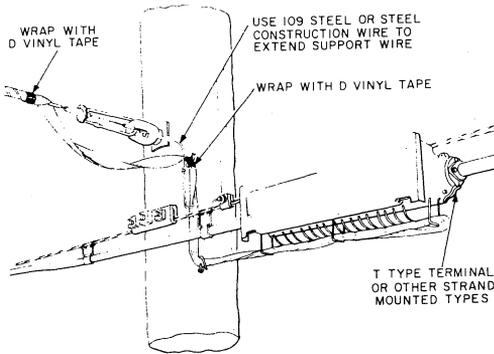

Fig. 29—Connecting Support Wire to Strand—Strand-Mounted Terminal
5.04 Where multiple wire is fed from aerial cable, connect the support wire to the strand as shown in Fig. 29 and 30. If fed from self-supporting cable, use a C or D connector on the strand instead of a cable lashing clamp.